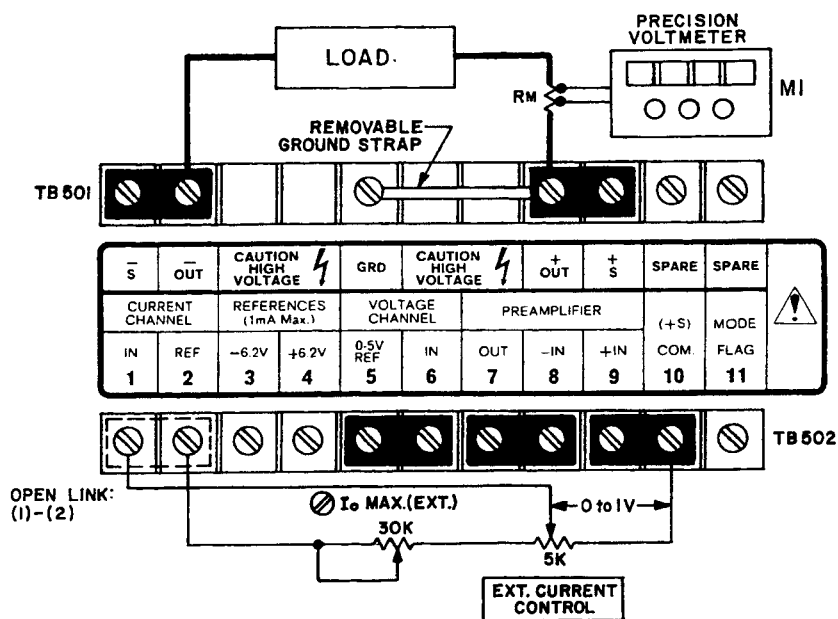

FIG. 3-7 CONNECTIONS FOR APH OUTPUT CURRENT CONTROL WITH AN EXTERNAL POTENTIOMETER.
- 1) Refer to FIG. 3-7. Connect all external components as shown. Turn APH "on." Adjust the front panel VOLTAGE CONTROL to the required load compliance voltage. Adjust the EXTERNAL CURRENT CONTROL to the position yielding the minimum output current.
**NOTE:** The output current value can be measured directly by means of a suitable milliammeter in series with the load or, as indicated in FIG. 3-7, indirectly by means of the precision voltmeter across a current measuring resistor ( $R_M$ ).  $R_M$  should be selected such that a convenient range on the precision voltmeter can be used, e.g., for a 10 milliamper output current, use a 100 ohm resistor to produce one volt full scale. If an electronic voltmeter is used, it should be battery-operated to avoid ground loops.